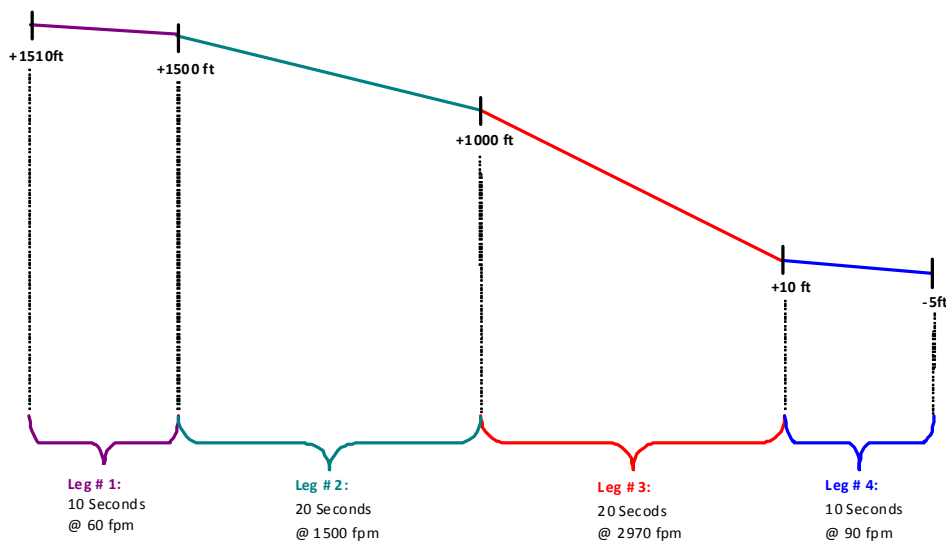

Fig. 4-18 Multi-leg Profile Example
3.	The UUT Parameters section displays the measurements (Fig. 4-18). Perform the following steps to perform a receiver sensitivity test.